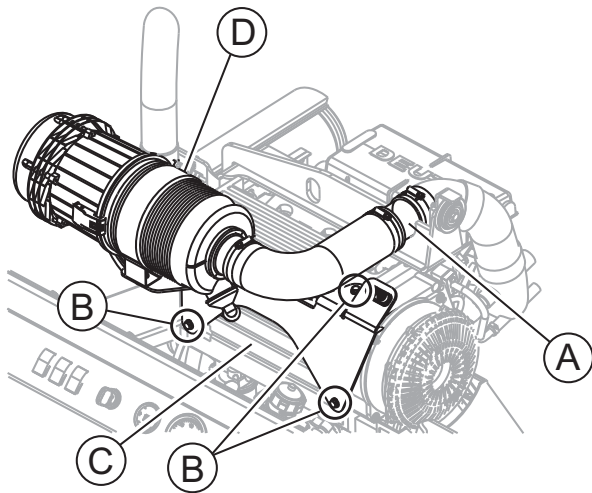

Figure 44. Air Cleaner Removal
1. Disconnect the air intake hose at the lifting bale (Figure 44, Item A).